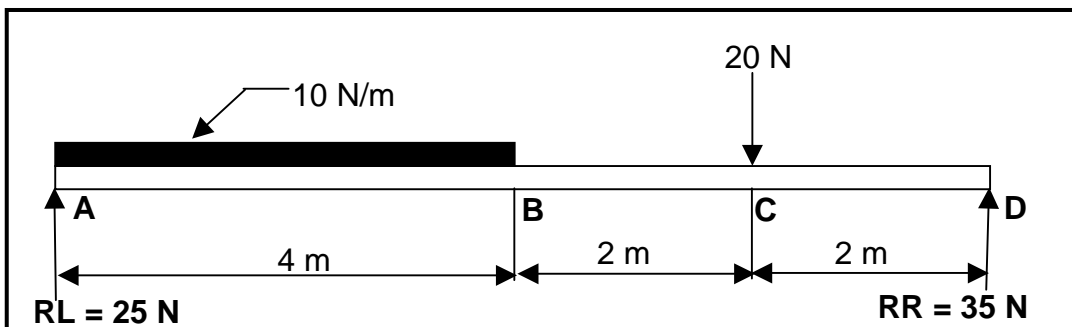

FIGURE 5.1
5.1 FIGURE 5.1 below illustrates a beam with a span of 8 metres which is subjected to a uniformly distributed load of 10 N/m over 4 metres and a point load of 20 N, 2 metres from the right-hand side.